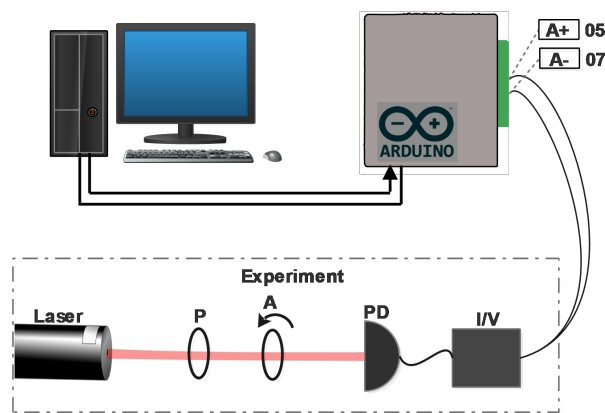

Figure 6: Schematic diagram of the experiment to verify the Malus's law where "P" represents the polarizer, "A" represents the analyzer.
To test our PhysLogger in an optical setup, we used the configuration shown in Figure 6. An optical beam produced by a laser is passed through the polarizer and the analyzer and is finally detected on a photodiode. The photodiode converts this interrupted optical signal into an electrical current which is converted to proportional voltage using a current-to-voltage amplifier. Finally, this signal is measured on PhysLogger. Here, output wires of current-to-voltage amplifier are connected with the pins A+(05) and A-(07) of PhysLogger with Analog Differential mode inside the app.